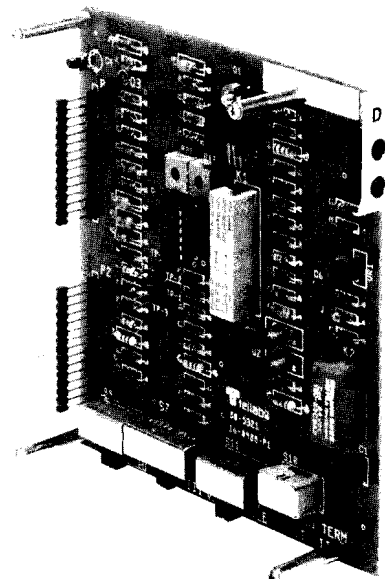

figure 1. 6008D E&M-to-E&M Signaling Converter subassembly
1.01 The 6008D E&M-to-E&M Signaling Converter plug-on subassembly (figure 1) provides bidirectional conversion between facility-side E&M signaling and the E&M signaling required by an associated terminal-side carrier channel or PBX. The subassembly is designed for optional use on the Tellabs 6131 2Wire-to-4wire or 4Wire-to-4Wire Terminal Interface Module.